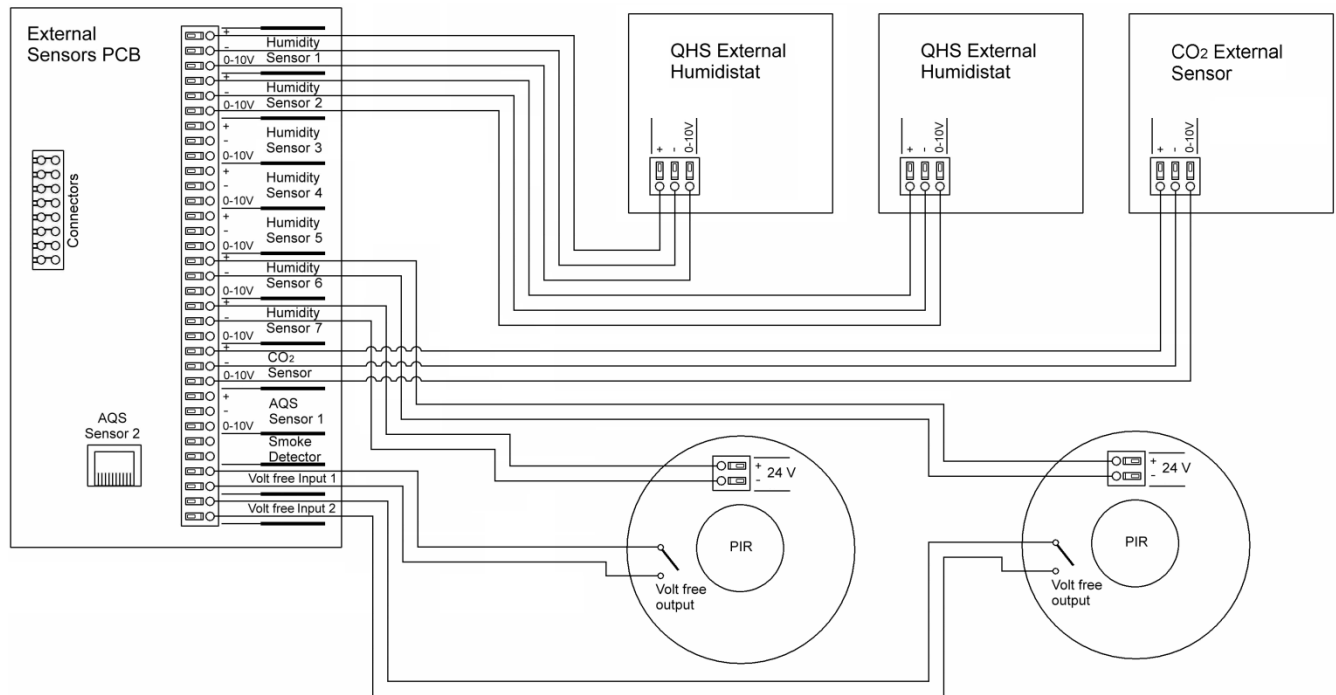

Fig. 4.10 Unit wired with 2 external humidity sensors, 1 external CO₂ sensor and 2 PIR sensors.
- The 24V power supply for the PIR sensors is taken from the "+" and "-" for Humidity Sensors 6 and 7. (See Fig. 4.10 above).